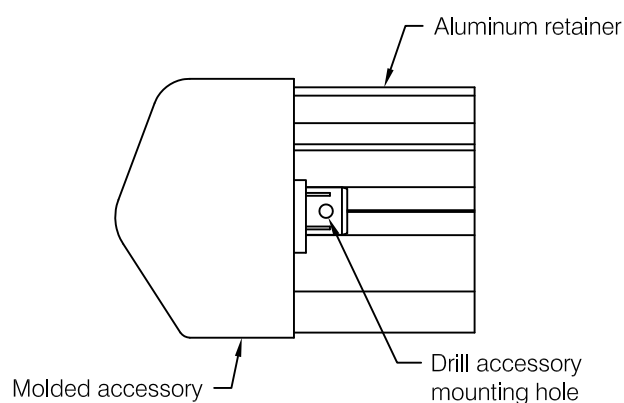

fig 3
- Step 5:** Insert molded accessories into end of retainer, press firmly to ensure molded part is seated squarely against the end of the retainer. Drill accessory mounting holes using the accessory as a template, see **fig 3**.